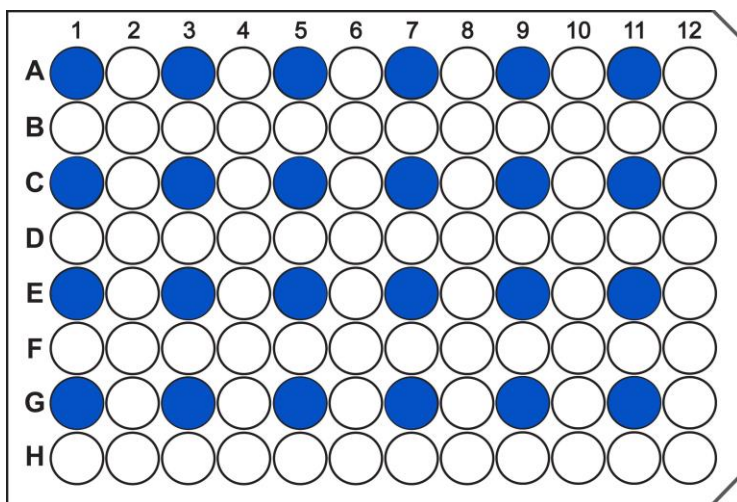

Figure 3. Schematic of a fully used microplate for the Free Hydrogen Sulfide Gas Assay Kit. Wells containing sample are labeled in blue.
- To avoid cross contamination of H_2S gas between experimental wells, always arrange the experiment in the 96 well microplate so that a well containing a sample is bordered on every side by a blank well (see Figure 3).